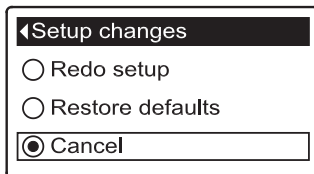

FIG. 23
1. From any of the rolling status screens, press the SELECT (O) button to display the **Main menu**.
3. Press the SELECT (O) button to display the Advanced settings menu.
5. Press the SELECT (O) button to display the Troubleshooting menu.
7. Press the SELECT (O) button to display the Setup changes menu (See Figure 23).
8. Press the RIGHT (▶) button. The flashing padlock icon will disappear, as shown in Figure 23.
9. Press the SELECT (O) button.